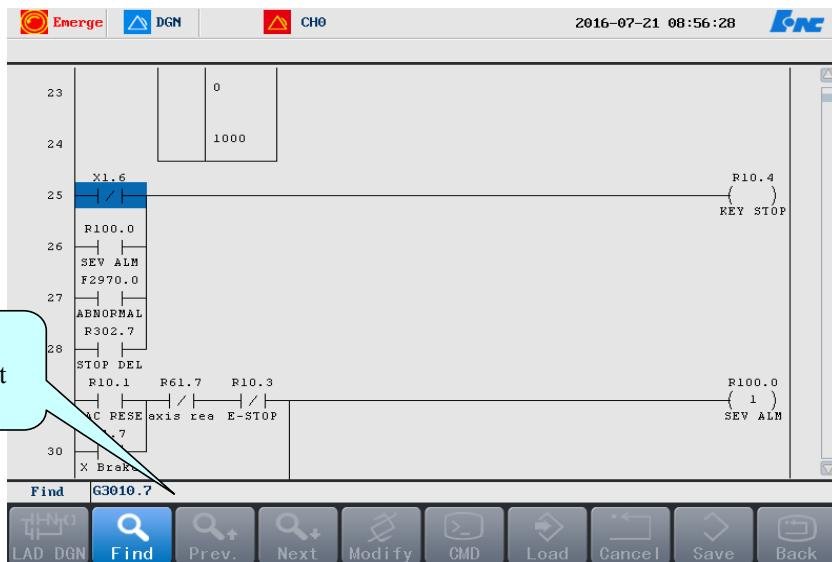

Figure 6.6.1 Find register in ladder
2. Search G3010.7 on the ladder interface. See Figure 6.6.1.